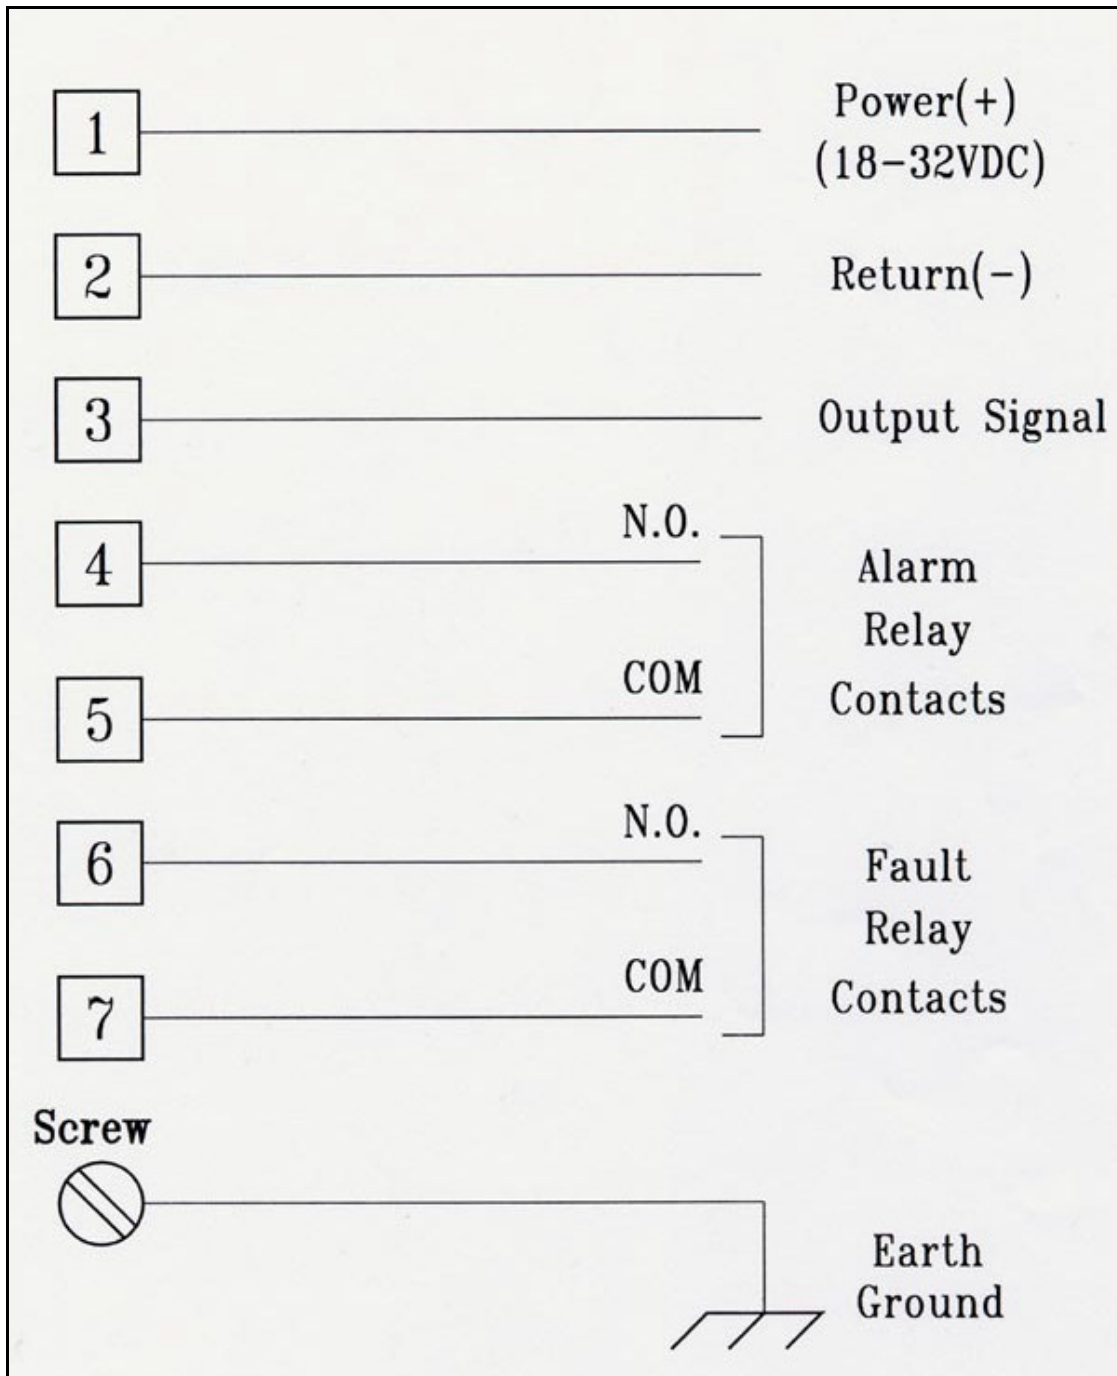

Figure 6. Flame Detector Assembly - Wiring Diagram
- 5 Connect the wires to the required terminals (Item 6) according to the wiring diagram. See section 6.7 and figures 6.
6.7 Terminal Wiring (Figure 6)